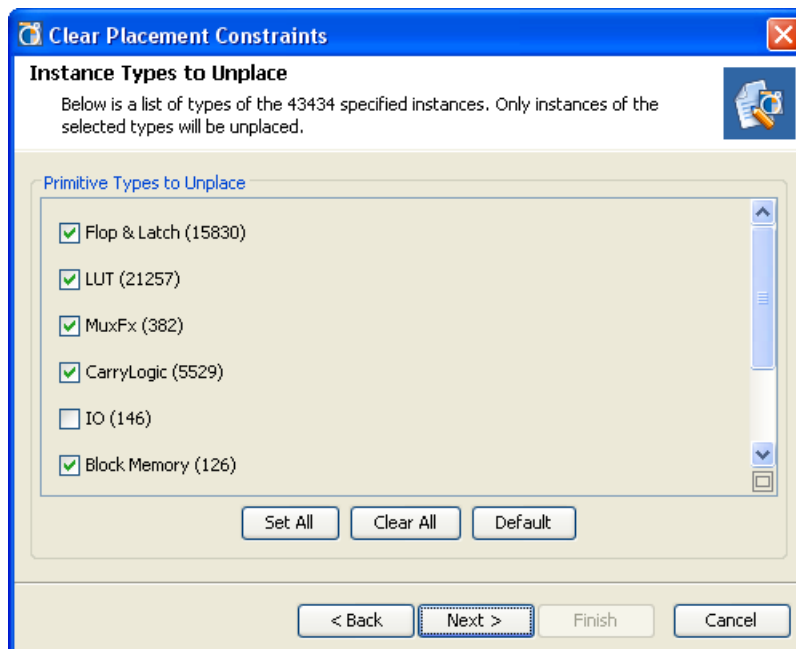

Figure 10-28: Unplace Instance Types
**Note:** If you have not previously selected instances, step 2 is skipped, and you are presented with a list of instance types in the design to unplace as described in step 4, and shown in Figure 10-28, page 350.
You are presented with a list of instance types to unplace as shown in Figure 10-28, page 350. This lets you selected from the various types of instances within the group of instances specified in Step 2.